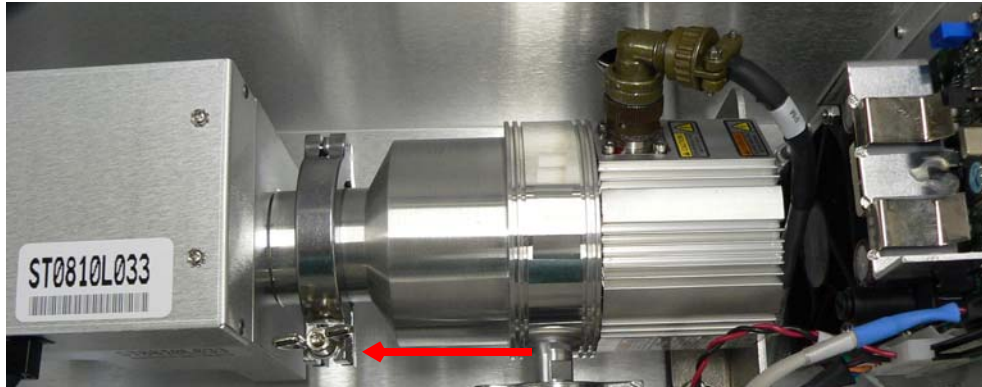

Figure B-4 NW25 Clamp To Spectrometer
5. Remove the NW25 clamp using the wing nut and place the O-ring to the side (Figure B-4).